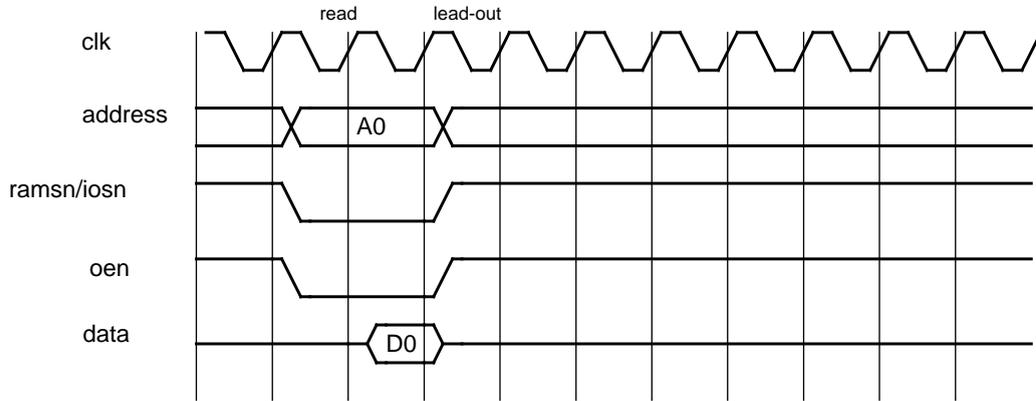
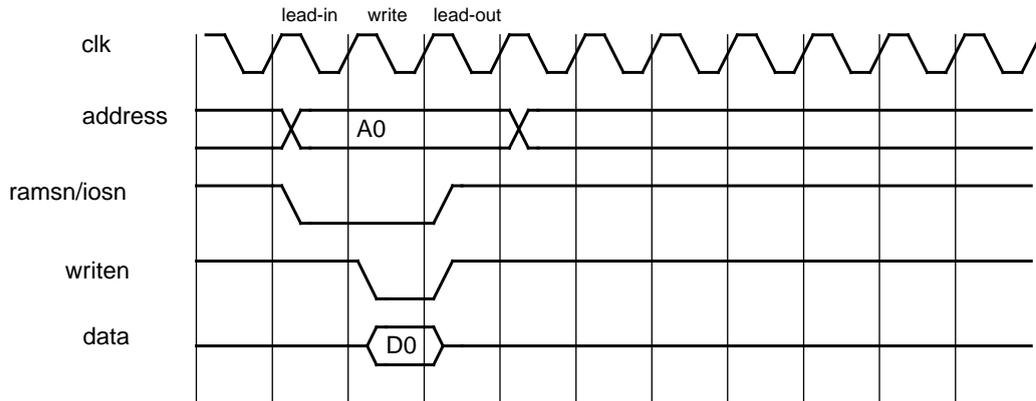

Figure 250. 32-bit PROM/IO read cycle
Figure 251. 32-bit PROM/IO write cycle
For the PROM and I/O operations, a number of waitstates can be inserted to increase the read and write cycle. The number of waitstates can be configured separately for the I/O and PROM address ranges, through a programmable register mapped into the APB address space. After a reset the waitstates for PROM area is set to its maximum (15). Figure 250 and figure 251 show timing diagrams for the PROM read and write accesses.
Read accesses to 32-bit PROM and I/O has the same timing, see figure 250
The write access for 32-bit PROM and I/O can be seen in figure 251